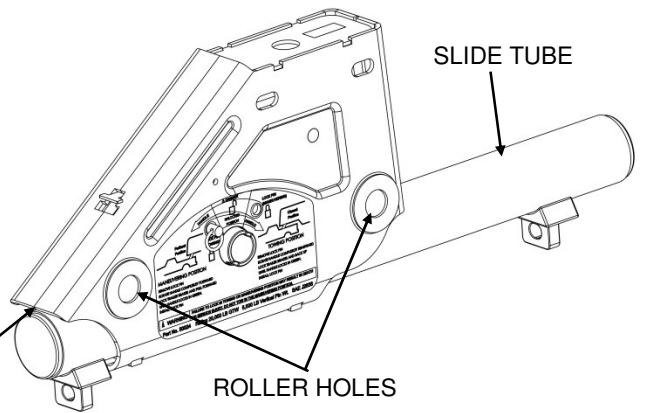
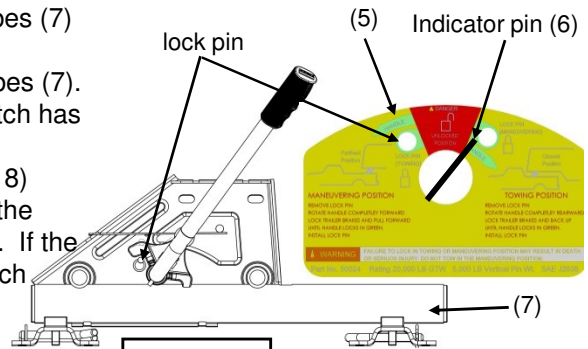

Figure 12
Figure 18
7. Coat top surface of slide tube and roller holes in each slider assembly with all purpose grease or Teflon lube, use as needed (see Figure 12). Repeat this application monthly during use.
5. Return to truck. Release emergency brake. Manually engage trailer brake and back truck rearward until REESE™ FIFTH Wheel Slider stops near the bolt on foot (Figure 12) and the latch engages in the towing position (see Figure 18).
- B. If Slider does not move, the latch has engaged the tubes (7) and Slider should be engaged in the towing position.
- C. If Slider does move, the latch has not engaged the tubes (7). **DO NOT TOW!** Repeat steps 1 - 6 above until the latch has engaged the tube (7).
- D. Install lock pin completely in towing hole. (see figure 18)
7. Examine the warning label (5). Indicator pin (6) should now be over the green range on the right side of the warning label (5) (see Figure 18). If the indicator (6) pin is over the red range on the warning label (5), the latch has not engaged the tubes (7).